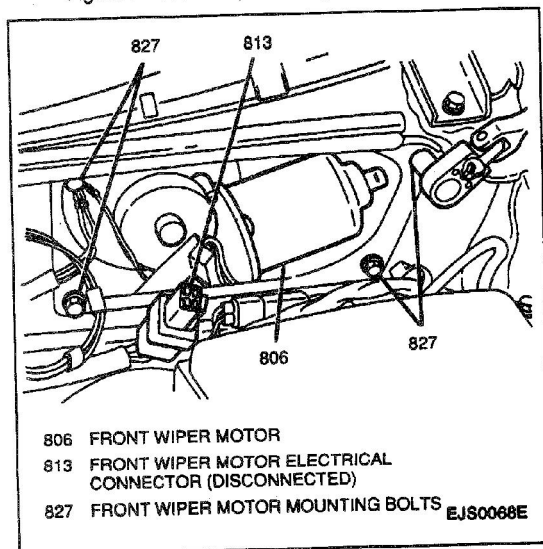

Figure 8—Removing Front Wiper Motor
11. Four mounting bolts and pull front wiper motor away from bulkhead (Figure 8).
3. Four mounting bolts and pull front wiper motor away from bulkhead (Figure 8).